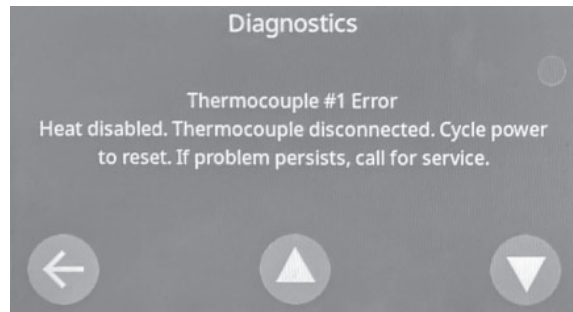

Figure 47
4. Press  button to view the error descriptions. This screen (Figure 47) will display an explanation for all possible errors on the oven and show some basic troubleshooting steps in case any of the errors are encountered during use.